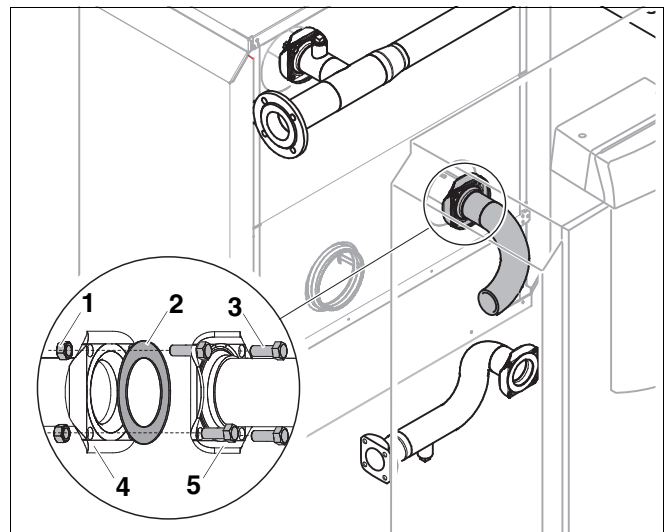

Fig. 10 Fitting return piece to the second boiler
- Place gasket (Fig. 10, [2]) on the return of the second boiler.
- Secure return piece flange (Fig. 10, [5]) to return flange (Fig. 10, [4]) of the second boiler using four bolts (Fig. 10, [3]) and nuts (Fig. 10, [1]).